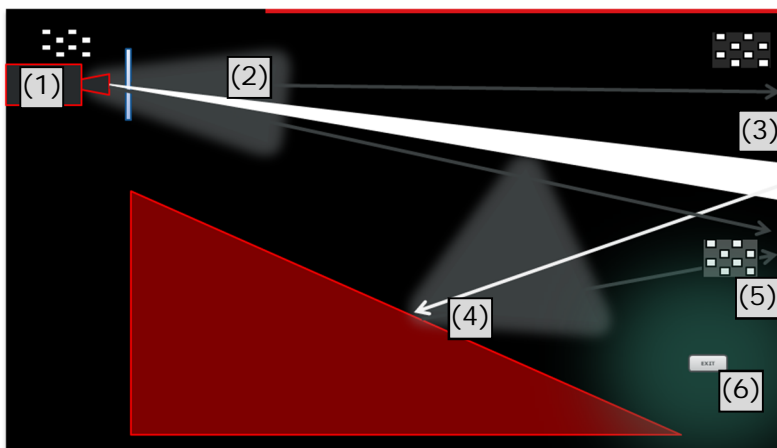

Figure 1: A model for calculating the on-screen ANSI contrast
Figure 1 explains the concept visually, in a step-by-step way. On the top left (1) you have a projector that produces an ANSI contrast image. If the optics were perfect, then the ANSI contrast would be exactly the same as the sequential contrast. However, due to scattering inside the imaging optics and lens, the projector ANSI contrast is lower than its native sequential contrast. In addition, the port window also adds scattering. So there is always a bit of a "haze" coming through the lens and the port window (2), which is proportional to a certain **scatter coefficient 's'** that is a combination of the lens and porthole performance.